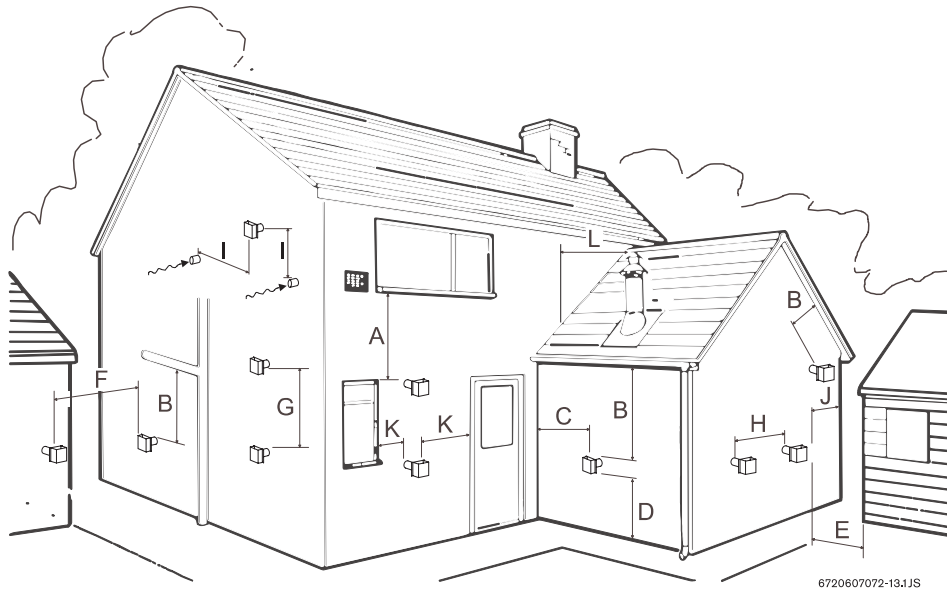

Fig. 17
- Fig. 17 and table 6 show the required clearances for the vent termination. Follow local codes if more stringent.